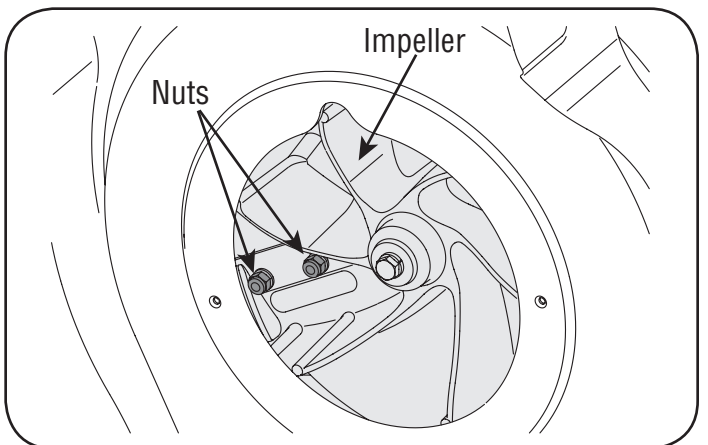

Figure 21
- The nuts on the flat head cap screws can be reached from underneath using a 1/2-inch socket, universal, and extension. See Figure 21.